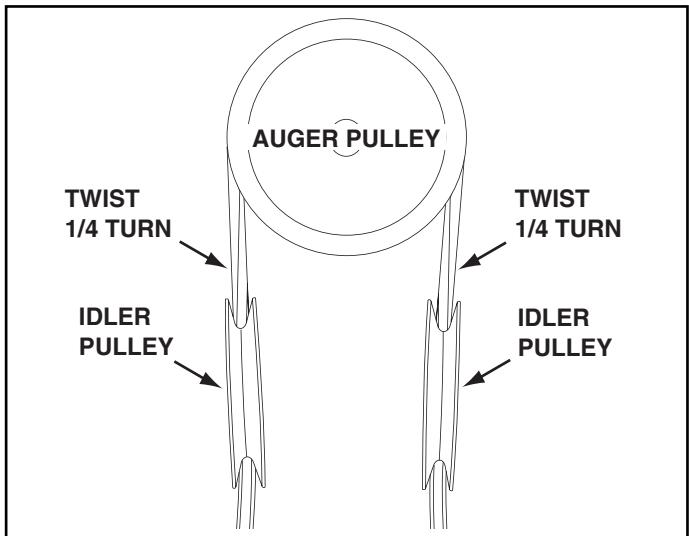

FIGURE 22
- Make sure the auger belt is correctly assembled to the snow thrower. The belt must pass over the top of the auger pulley and then twist 1/4 turn to pass underneath the two side idler pulleys on the snow thrower. The "V" side of the belt must seat in the grooves of all three pulleys. See figure 22.